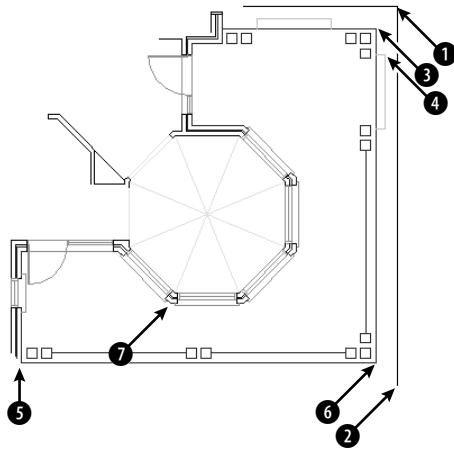

**Figure 14-12:** A house plan with an octagonal ceiling.
2. Save the file as `ab14-03.dwg` in your AutoCAD Bible folder. This is the same drawing used in the previous two exercises, as shown in Figure 14-12. OSNAP should be on with running object snaps for endpoint and intersection. If the Dimension toolbar isn't visible, right-click any toolbar and choose Dimension.
Specify first extension line origin or <select object>: *Pick the endpoint at ❶ in Figure 14-12.*
6. The command repeats the Specify a second extension line origin or [Undo/Select] <Select>: prompt. Pick the endpoint at ❺ in Figure 14-12 to place the dimension. Press Enter twice to end the command.
Specify first extension line origin or <select object>: *Choose the endpoint at ❻ in Figure 14-12.*
8.  Choose Baseline from the Dimension toolbar. At the Specify a second extension line origin or [Undo/Select] <Select>: prompt, pick the endpoint or intersection at 6 in Figure 14-12. Press Enter twice to end the command.